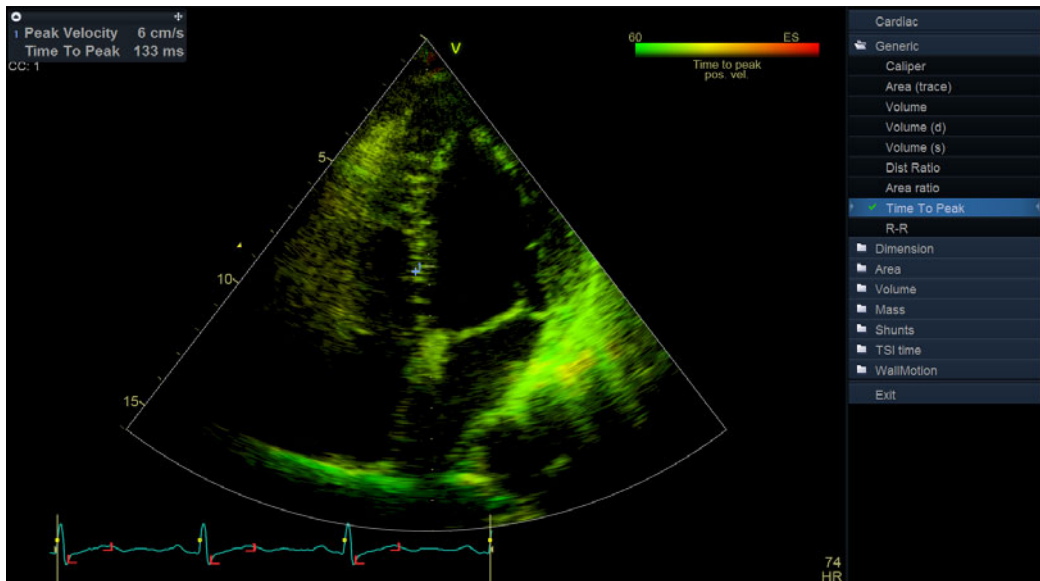

Figure 8-5. TSI Generic Time to peak measurement screen
3. In the *Measurement* menu, select **Generic** and **Time to peak** (see Figure 8-5).